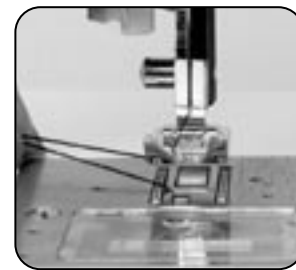

Fig. 2
4. Pull about six inches of both the upper and lower threads toward the back of the machine, placing them under the presser foot [Fig. 2].